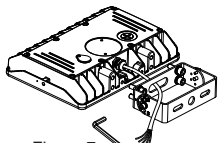

Figure 7
Step 2: Pull the wire through the middle hole of the Trunnion Bracket. (Figure 7)